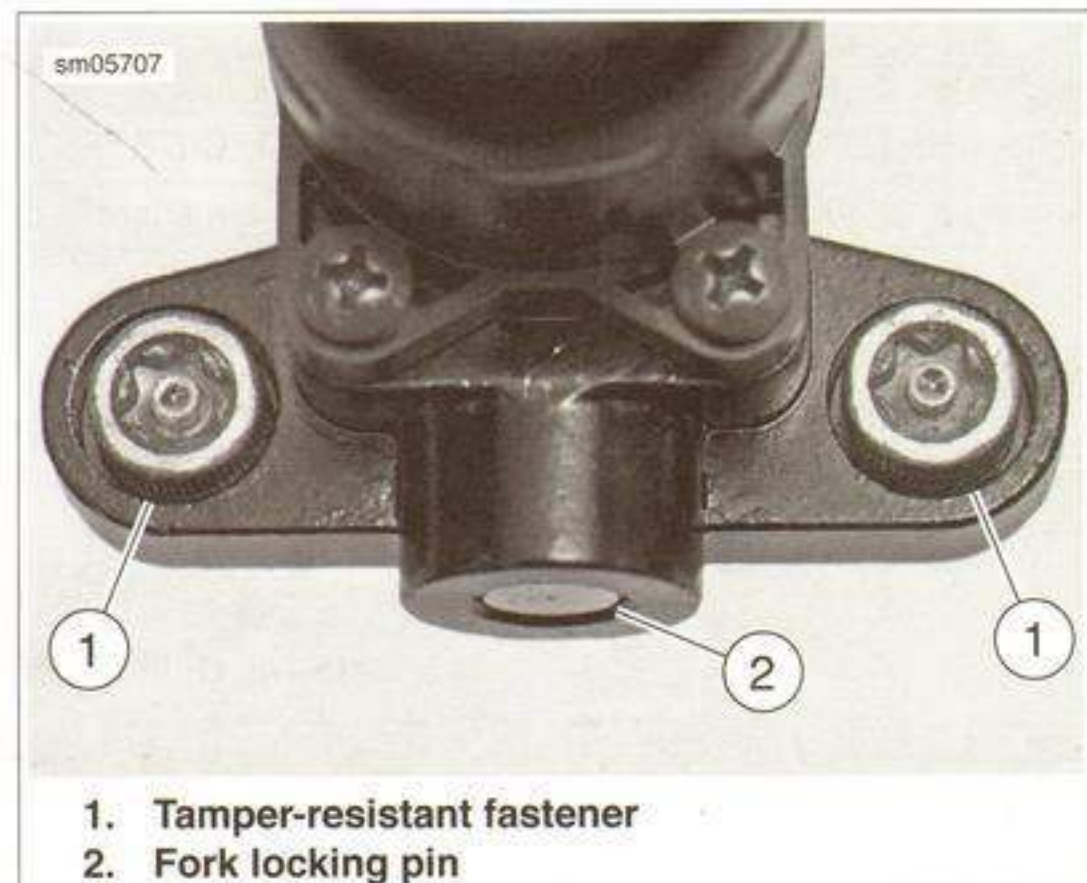

Figure 7-2. Ignition Switch Mounting Fasteners
3. Cut the cable strap (2) securing the ignition switch wire lead to the main wire harness.
4. See Figure 7-2 and Figure 7-3. Use a SNAP-ON TAMPER-RESISTANT T45 TORX DRIVE (Part No. FTXR45E) to remove the ignition switch mounting fasteners.